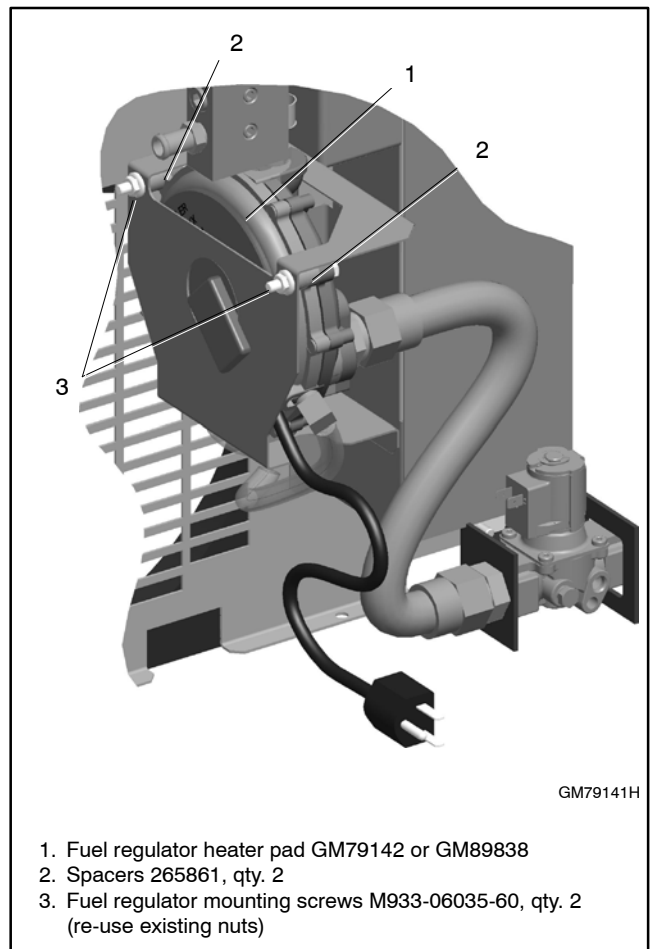
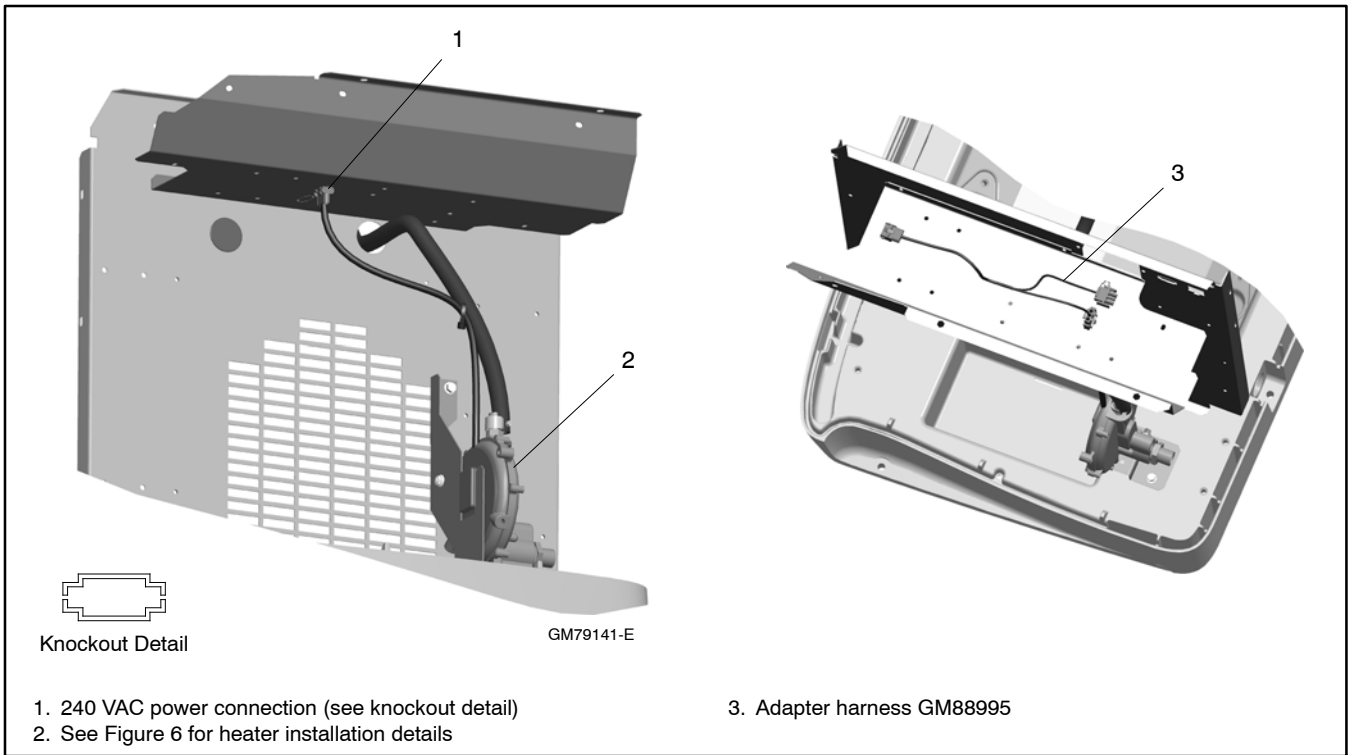
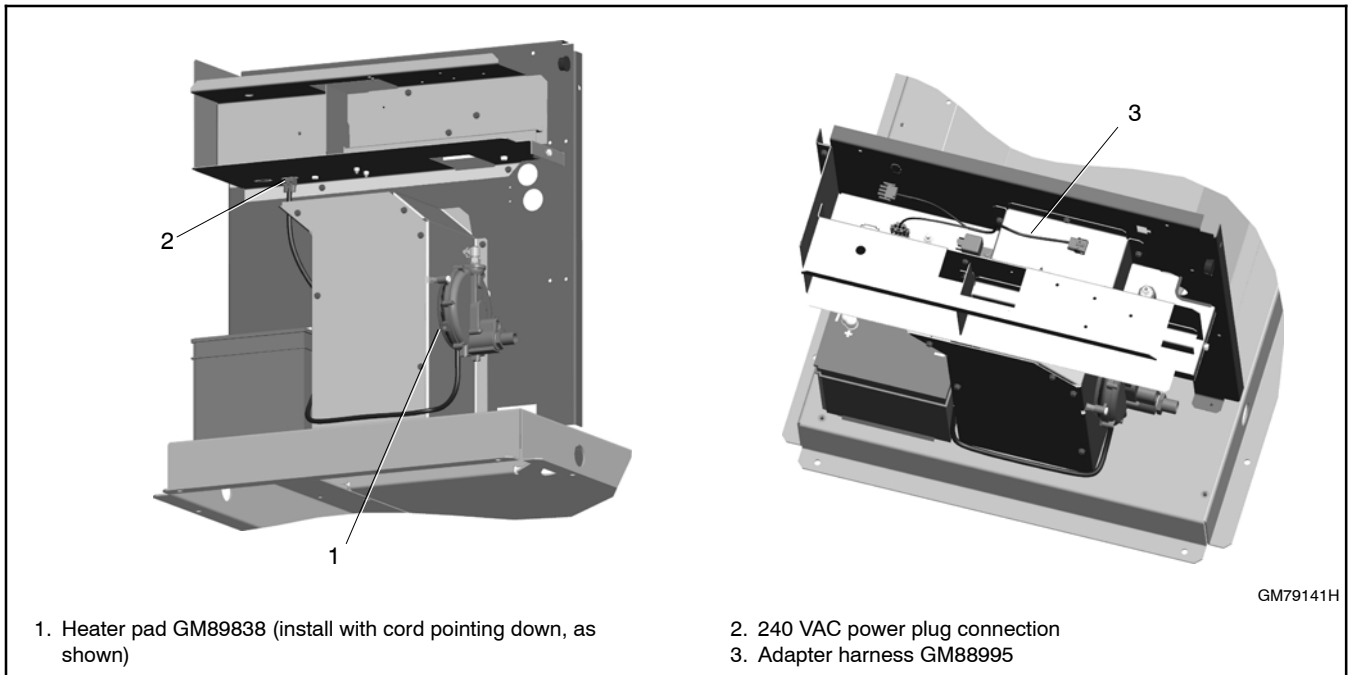

Figure 5 Fuel Regulator Heater Installation, Model 20RES/RESL
Figure 7 Model 20RESA/RESAL and 20RESC/RESCL 240 Volt Kit Power Connection
Figure 9 Fuel Regulator Heater Installation, 20RESB and 20RESD, 240 VAC
7. See Figure 5 through Figure 9 and select the illustration for your application. Remove and discard the screw(s) and nut(s) that secure the fuel regulator to the mounting bracket.
8. Before attaching heater pad GM79142 or GM89838 to the regulator, hold the pad and regulator in place as shown in the installation drawing for your model (Figure 5 through Figure 9). Rotate the heater pad, if necessary, to ensure that the power cord reaches the power receptacle without rubbing against any sharp edges.
Refer to Figure 7 for composite enclosures or Figure 9 for metal enclosures during this procedure.
16. Generator sets built after 10/9/2013 with serial numbers SGM327VFJ or later have a knockout under the controller for the 240 VAC power connector. Remove a knockout in the bottom of the controller box. See Figure 7.
17. Insert the heater's power cord connector into the knockout opening. See Figure 7. Confirm that the connector clicks securely in place.